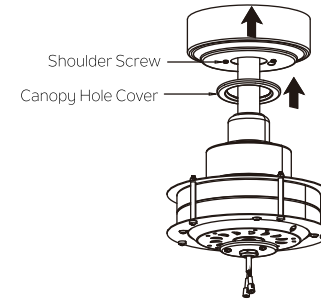

**Fig. 15**
**Step 2.** Assemble canopy by rotating key slot in canopy over shoulder screw in mounting bracket. Reinstall the shoulder screw that was previously removed, then retighten two shoulder screws securely.(Fig.15)